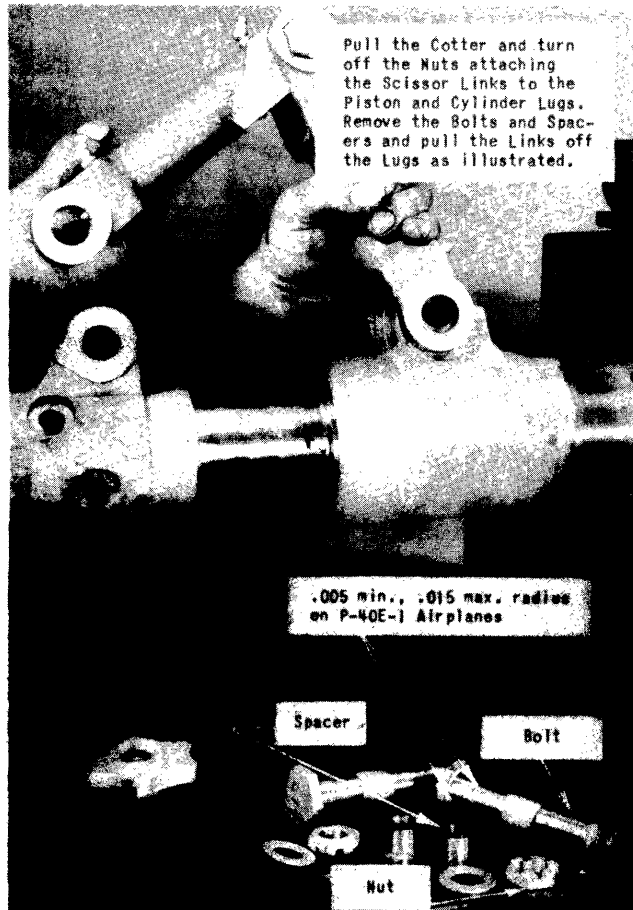

Figure 160 - Removing Scissor Links from Piston and Cylinder Lugs
(9) Pull the cotters and remove the nuts and washers on the two bolts, one attaching the scissor link to the lugs on the piston and the other attaching the links to the lugs on the cylinder. (See figure 160.) Remove the bolts and on all P-40E-1 airplanes the spacers. (See figure 160.) On P-40F airplanes remove the bolts and pull the links free of the piston and cylinder lugs.
(10) With the oleo cylinder secure in a wooden block clamp loosen the setscrew on the cylinder and
(24) After the strut has been run in the scissors links can be assembled. Before installing the links on the P-40E-1 airplanes inspect the bolts for a radius of .005 minimum, .015 maximum in the two places shown in figure 160. If the radius is greater than .015, the bolts must be reworked or replaced to obtain the correct tolerances. Inspect the floating spacers on P-40E-1 links for wear and scoring. Badly worn or scored spacers must be replaced. Be sure that the links are thoroughly clean and that the bushings are not worn or scored. Replace badly worn or scored bushings. When bushings are replaced it will be necessary to drill a new grease passage in the bushing to align with the grease passages on both sides of the scissor link which are equipped with Zerk fittings. Coat the surfaces of the bushings, spacers, and bolts with mobilgrease "Zero" and install the scissors links on the piston and cylinder lugs. Insert the bolts and snug up the nuts, then back them off one castellation and install the cotters. It is very important that the bolts are not drawn up tight to avoid binding of the bushings and spacers. Periodic inspection and greasing of the scissors links are required to assure satisfactory operation of the parts at all times.